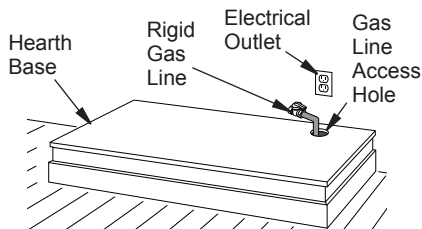

Figure 9 - Placing Hearth Base Accessory Against Wall
2. When installing blower, install a properly grounded, 120 volt three-prong electrical outlet at fireplace location if an outlet is not there. If possible, locate outlet so cabinet mantel will cover it when installed (see Figure 9).
4. Place hearth base accessory against wall at installation location. Cut an access hole in hearth top to run flexible gas line to fireplace (see Figure 9, page 10). Make sure to locate access hole so cabinet mantel will cover it when installed.